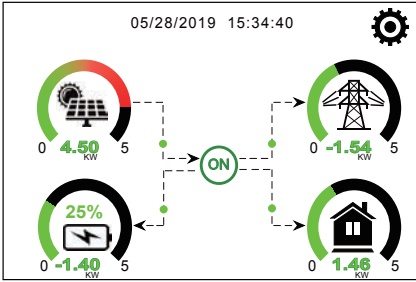
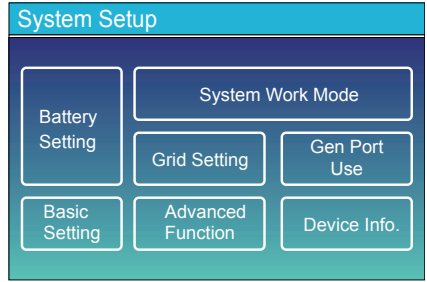
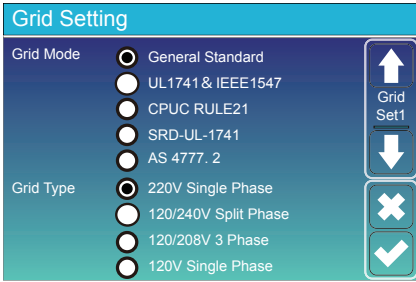

Figure 1
Figure 2
Figure 3
Procedures: Navigate to main page of LCD and click Setting Icon (Figure 1) ->Navigate to System setup (Figure 2) ->Select Grid Setting (Figure 3) ->Press the Down arrow twice ->Click Q(V) and set V1~V4, Q1~Q4.